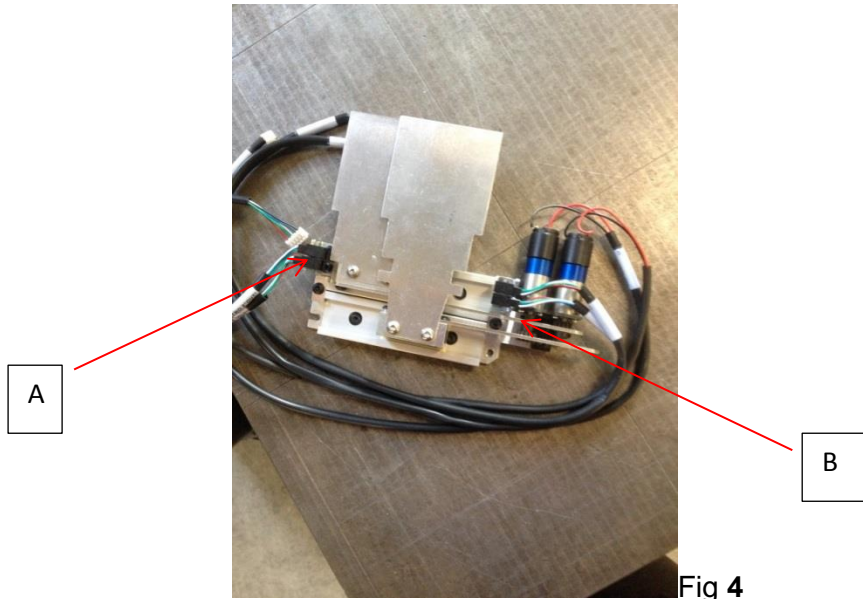

Fig 4
6. Remove the damaged optical switch removing screws **A**) or **B**) as in figure 4, take off the switch and position the new one.